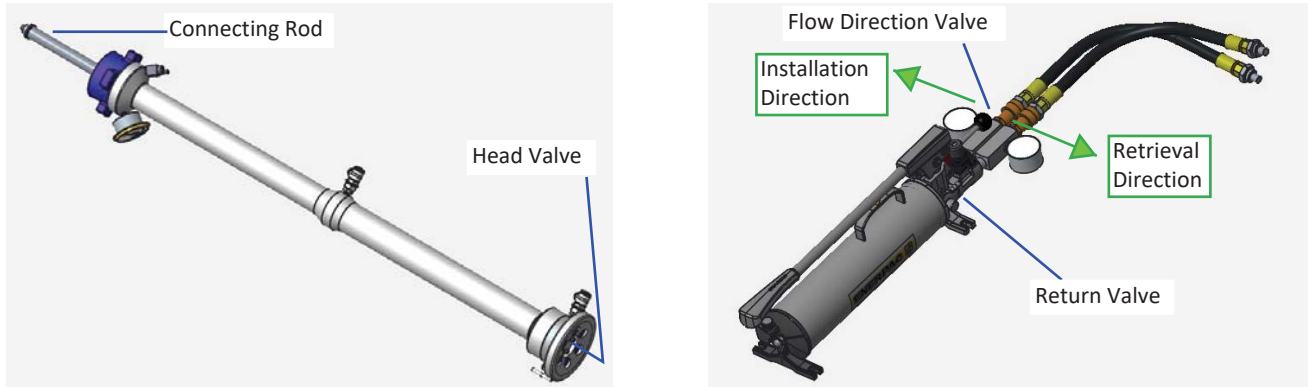

Fig. 6
10. Connect the hoses from the pump to the retriever. Before using the pump, observe the settings of the flow-direction valve, "RETRIEVE" and "INSTALL" (fig. 6).
11. Ensure that the bleed valve in the retriever head (head valve) is open (1-2 turns is sufficient). For manual pumps, also check that the return valve on the pump is closed. Set the hand/air-pump to "INSTALL", and pump until the connecting rod is fully extended. Continue to pump until the pressure inside the retriever is a minimum of 290 psi (20 bar) - (watch the pressure gauge on the pump). Then close the head (bleed) valve, and disconnect the hoses (fig. 6).